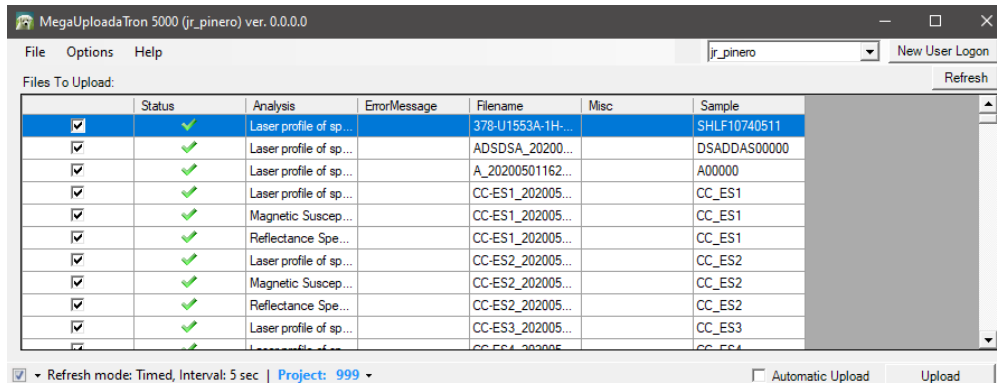

Figure 5. Main **MUT** screen
2. Once activated, the list of files from the **C:\DATA\IN** directory is displayed. Files are marked ready for upload by a green check mark (Figure 5).